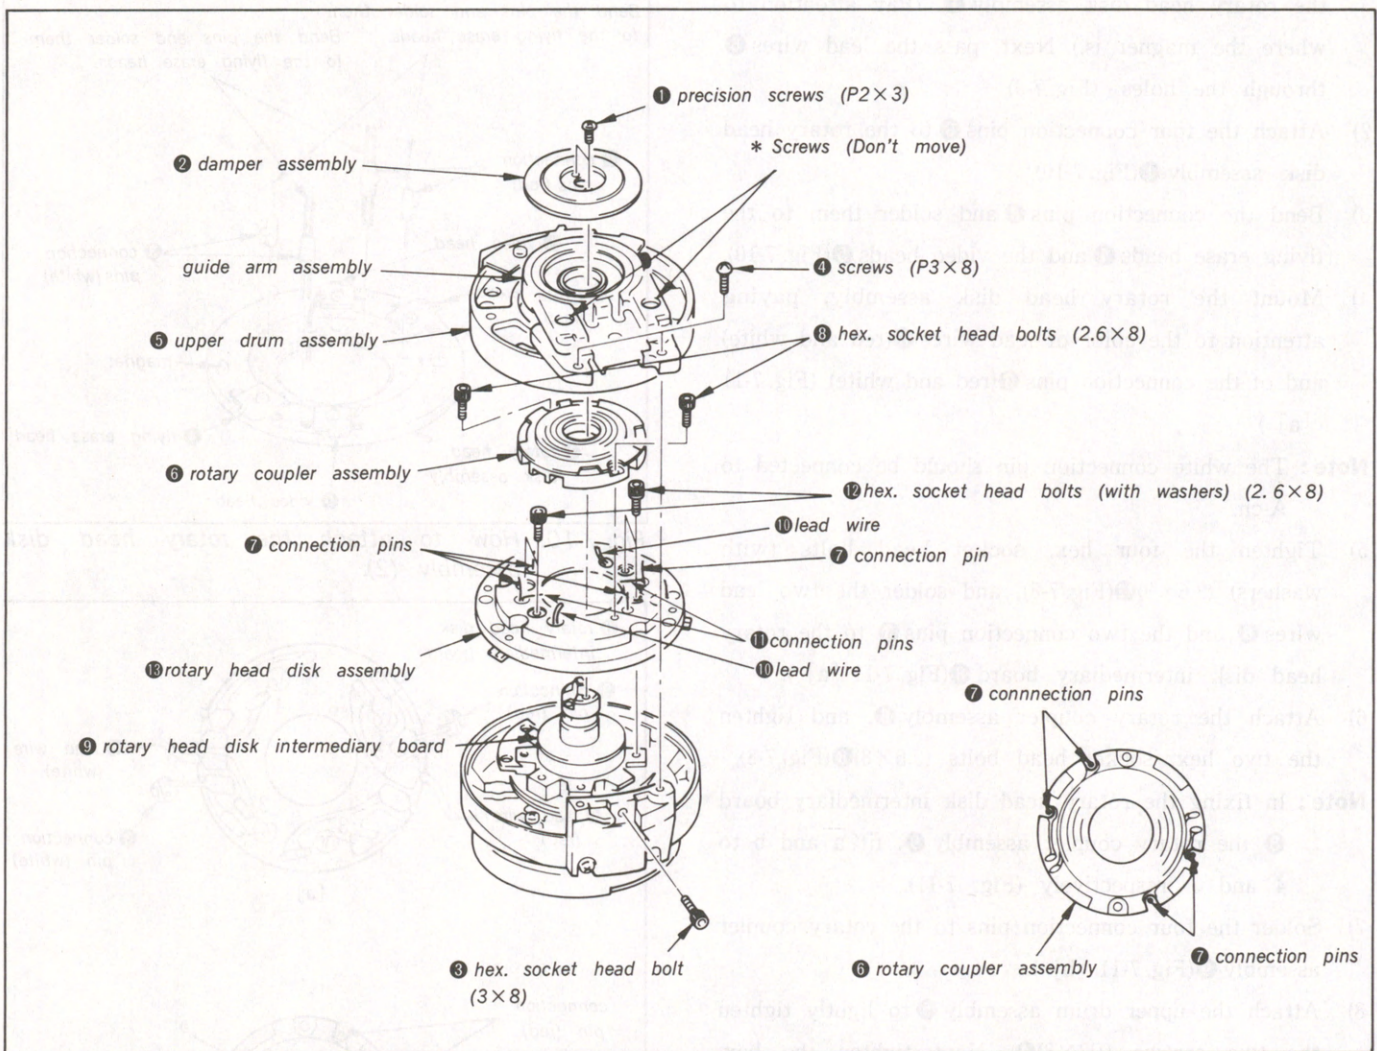
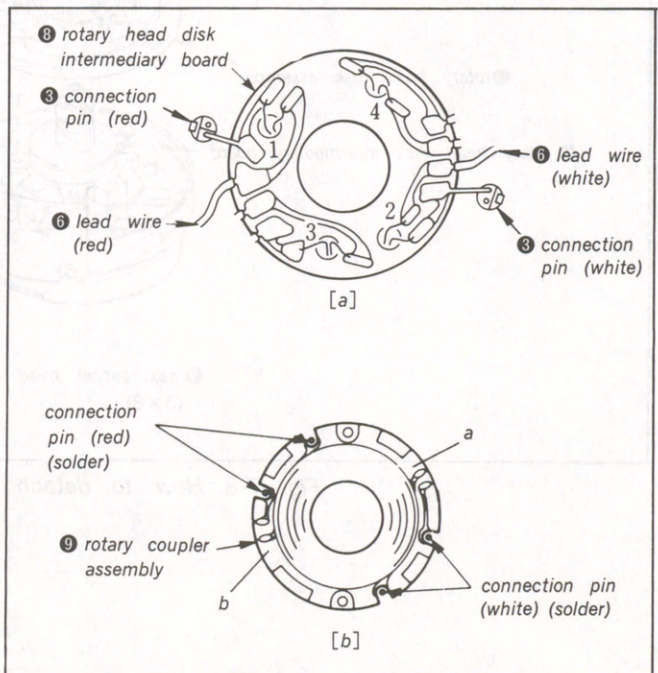

Fig. 7-8. How to detach the rotary head disk assembly.
Fig. 7-11. How to attach the rotary head disk assembly (3).
(Fig. 7-8)
- 4) Mount the rotary head disk assembly, paying attention to the color of lead wires ⑥ (red and white) and of the connection pins ③ (red and white) (Fig. 7-11 [a]).
- 5) Tighten the four hex. socket head bolts (with washers) (2.6×8) ⑫ (Fig. 7-8), and solder the two lead wires ⑥ and the two connection pins ③ to the rotary head disk intermediary board ⑧ (Fig. 7-11 [a]).
- 6) Attach the rotary coupler assembly ⑨, and tighten the two hex. socket head bolts (2.6×8) ⑧ (Fig. 7-8).
Note: In fixing the rotary head disk intermediary board ⑧ the rotary coupler assembly ⑨, fit a and b to 4 and 3, respectively (Fig. 7-11).
- 7) Solder the four connection pins to the rotary coupler assembly ⑨ (Fig. 7-11 [b]).
- 8) Attach the upper drum assembly ⑤ to lightly tighten the two screws (P3×8) ④. Next tighten the hex. socket head bolt (3×8) ③ and then firmly does the two screws (P3×8) ④ (Fig. 7-8).
- 10) Attach the damper assembly ② to tighten the two precision screws (P2×3) (Fig. 7-8).